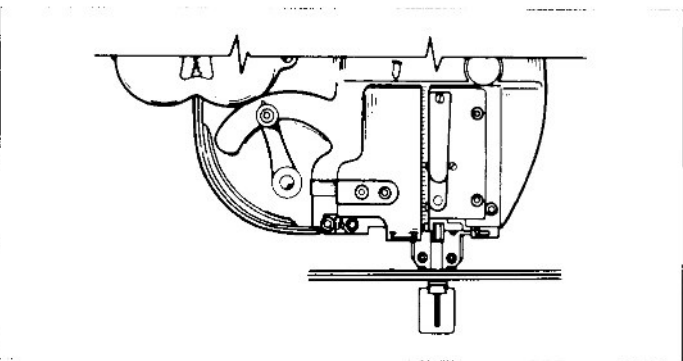
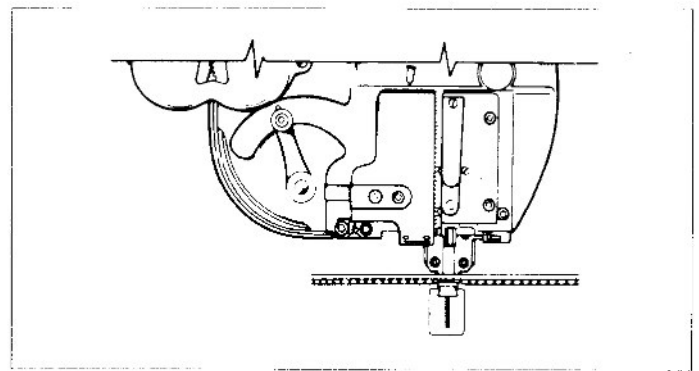

Figure 3
Figure 4
3. Place the material to be stitched over the clincher. If the work material is metal and is not compressible, adjust the clincher upward until the material is held firmly between the clincher and the formers. See figure 3. If the work material is not metal and is compressible, adjust clincher upward until the formers and clincher make a slight depression in the work material. See figure 4. Raise formers and remove hand crank.